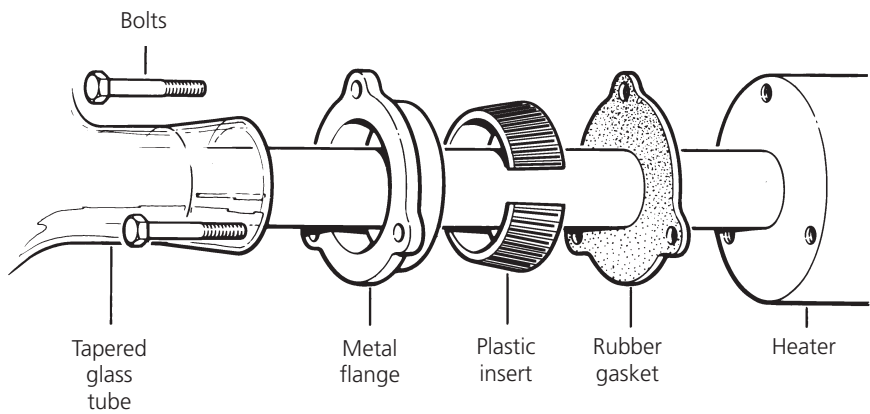

Figure 2 Flange assembly
- Assemble the heater into the boiler as shown in Figure 2.